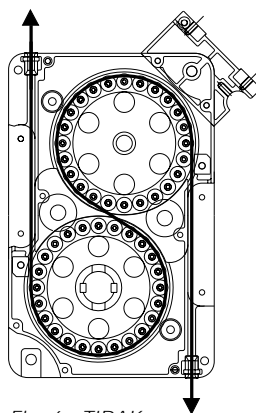

Fig. 6 - TIRAK lifting mechanism
The lifting mechanism (13) consists of two TWIN-TIRAK model T-1000 hoists, manufactured by the TRACTEL Group and specially designed for SECALT building maintenance units. The wire rope travels in an "S" shaped path around the two adhesion pulleys (Fig. 6). The TWIN-TIRAK hoist is fitted with an overspeed safety brake which operates if the cradle descends too fast, and a disc brake, which is opened electrically as soon as the power is supplied to the motor.